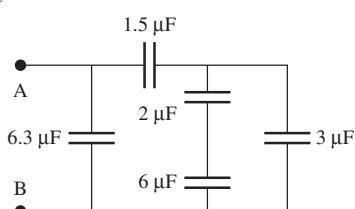

FIGURE P4.29 Capacitor network.
- 4.29 (A)** Find the equivalent capacitance between points A and B in Figure P4.29.